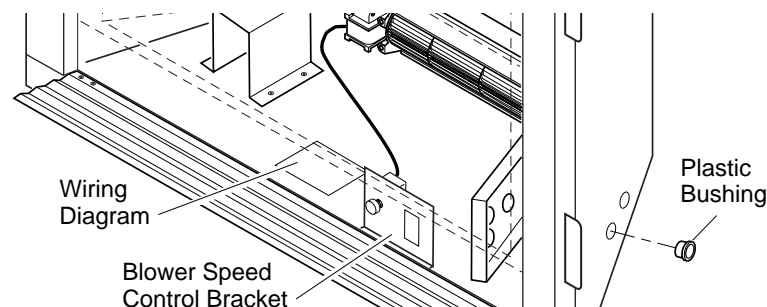

Figure 33 - Installing Plastic Bushing and Wiring Diagram Sticker
a. **If your fireplace system is installed as a freestanding unit with an accessory mantel**, determine whether the power cord will exit the left side or the right side of the firebox. Install one plastic bushing provided into the 1 1/2" hole in the outer casing through which the power cord will exit. Install the second plastic bushing provided into the floor support bracket if exiting through the right side (see Figure 33). Route power cord through (both) plastic bushing(s) and plug the power cord into a properly grounded 3-prong wall receptacle near the firebox.
10. Peel off the backing paper and stick the supplied wiring diagram decal on the firebox bottom approximately 3" to the right of the blower speed control bracket (see Figure 33).